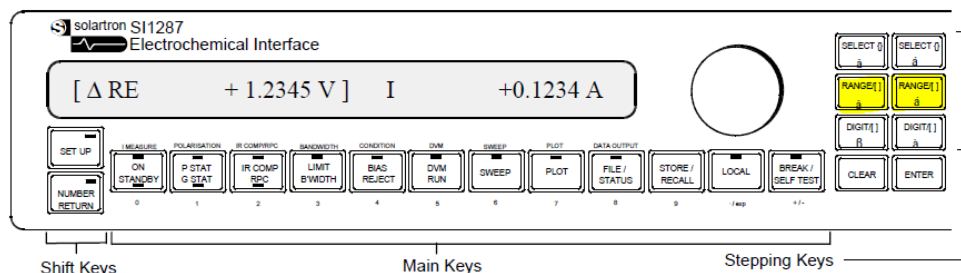

Figure 7
- Click “enter”. “[Free Memory...]” will display. Use the square bracket arrow keys (because the text on the front display is now in square brackets-Figure 7) to select “GPIB address” (press up arrow 2x).